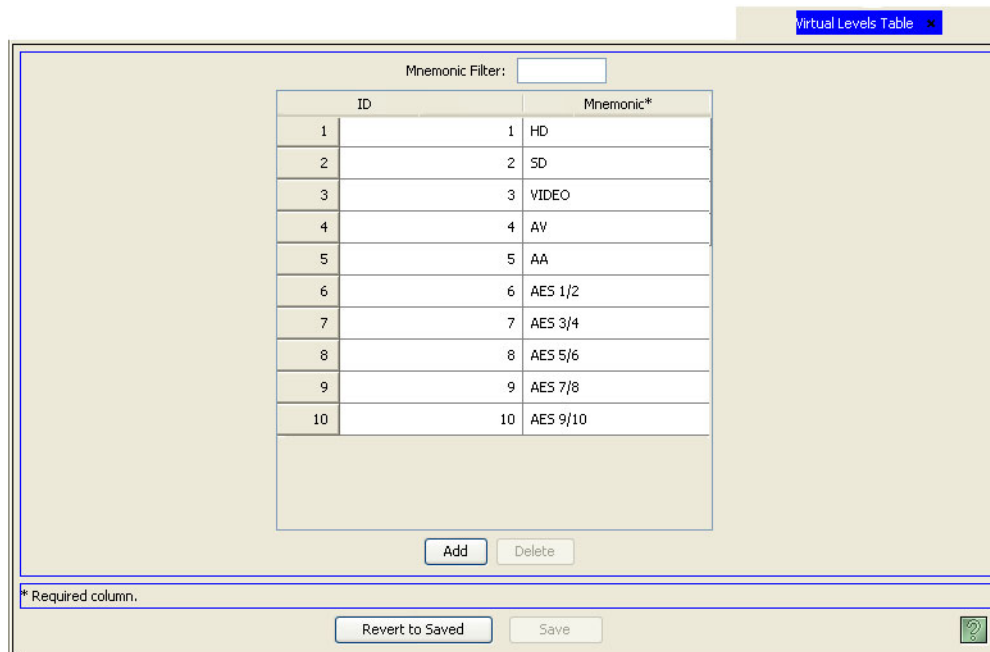

Figure 8-21. Virtual Levels Tables
- 2 From the Navigation area, select the 'Views' pane and then 'Virtual Levels'. The 'Virtual Levels' table appears, as shown in Figure 8-21.